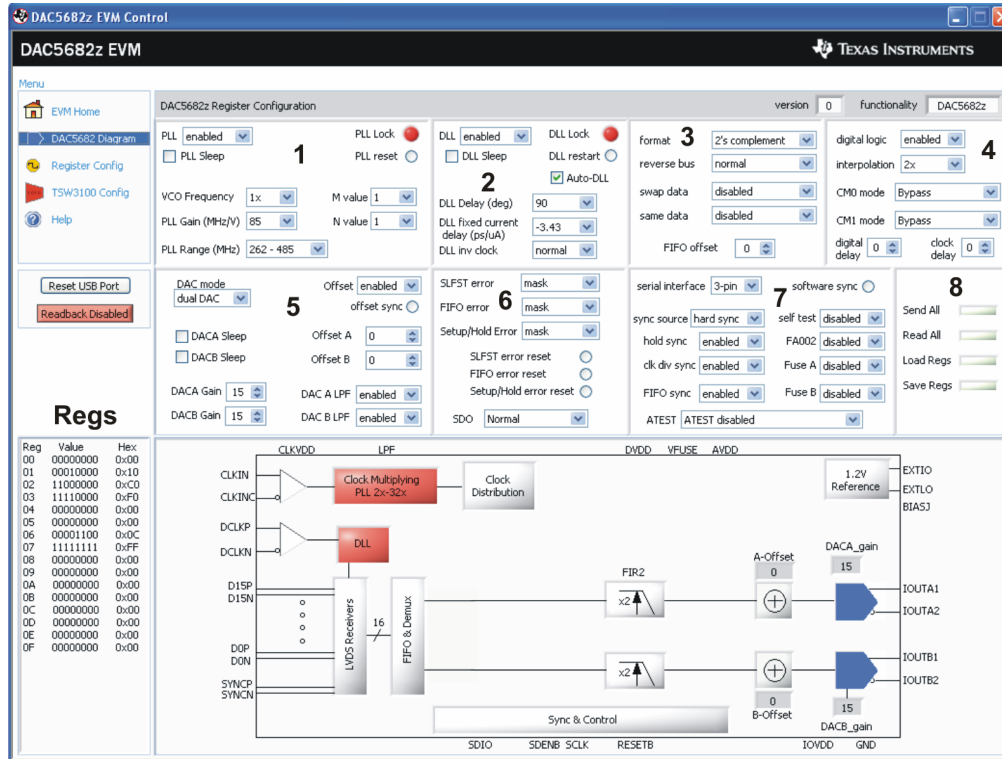
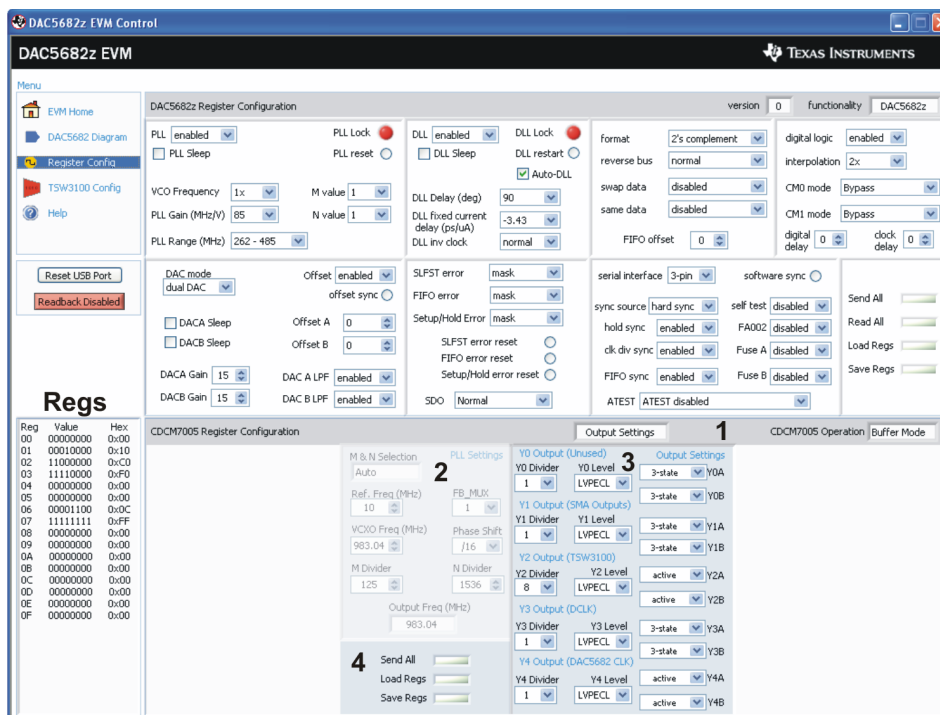

Figure 14. DAC5682Z Block Diagram and Register Configuration Settings
Figure 15. The CDCM7005 and DAC5682 Register Configuration Settings
- **DAC5682z Register Table**—displays DAC5682Z register settings in binary and hexadecimal formats (Figure 14 - Regs).
DAC5682z Register Table Area (See Figure 14, Figure 15, and Figure 16)